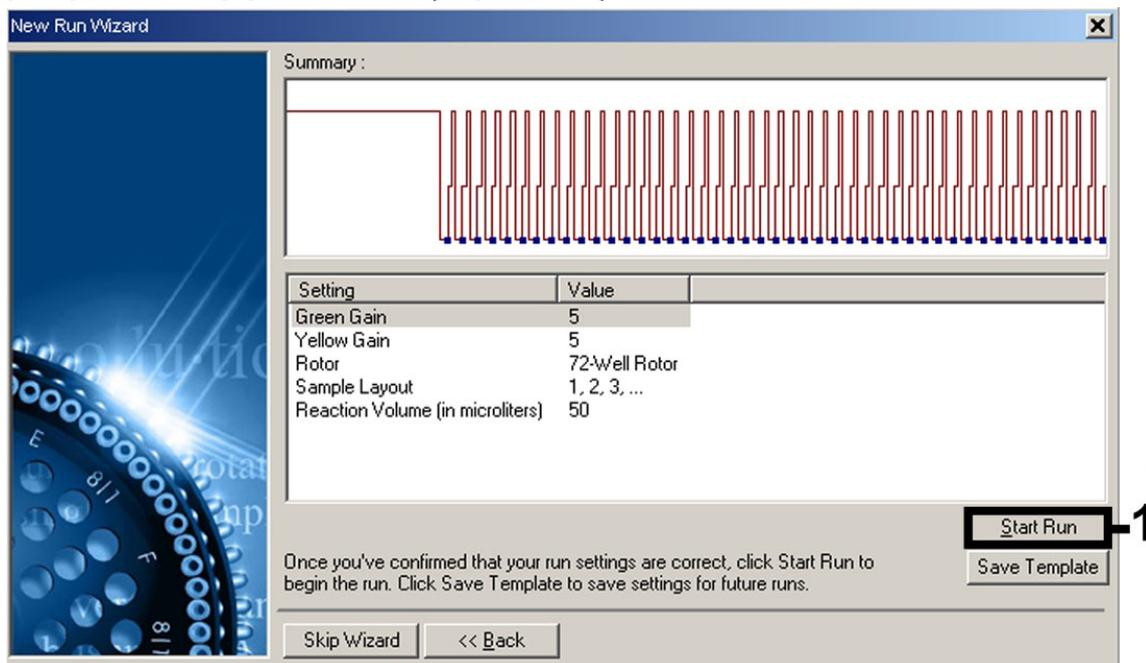

Figure 10. Starting the run. Note that, on the Rotor-Gene 3000, the software will define the fluorescence dyes as “FAM/Sybr” and “JOE”.
Starting the run	Figure 10
- 10. The gain values determined by the channel calibration are saved automatically and are listed in the last menu window of the programming procedure (Figure 10). Click “Start Run”.**